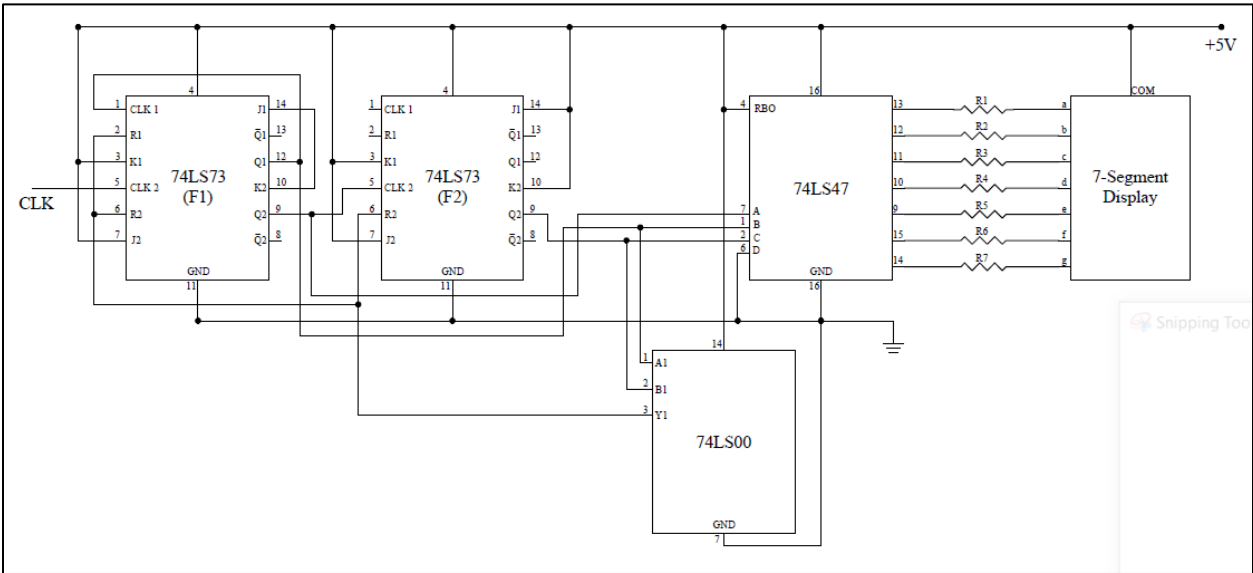

Figure 12-9: Modulo 6 Up counter using JK Flip-Flops
STEP 2: Refer Figure 12-9 and study the circuit diagram and its connections. (Proteus simulation circuit diagram too is provided for user's ease of understanding the circuit and as an assistance to conduct simulations using Proteus software)